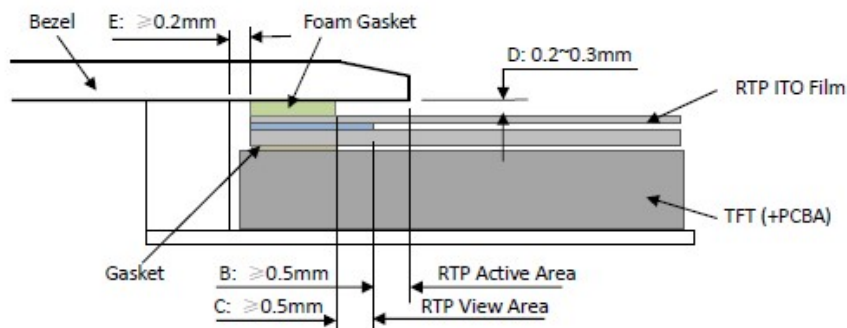

Figure 4
- It should bezel touching the RTP Active Area (A.A.) to prevent abnormal touch. It should left gap $D=0.2\sim 0.3\text{mm}$ in between. (Figure 4)
- Outer bezel design should take care about the area outside the A.A. Those areas contain circuit wires which is having different thickness. Touching those areas could de-form the ITO film. As a result bezel the ITO film be damaged and shorten its lifetime. It is suggested to protect those areas with gasket (between the bezel and RTP). The suggested figures are $B \geq 0.50\text{mm}$; $C \geq 0.50\text{mm}$. (Figure 4)
- The bezel side wall should keep space $E=0.2\sim 0.3\text{mm}$ from the RTP. (Figure 4)
- 为避免面框直接压在动作区 (A. A.) 上造成误动作，面框与电阻触摸屏 (RTP) 之间应留有一定的空隙 $D=0.2\sim 0.3\text{mm}$ 之间。(附图 4)
- 设计面框时，要注意用面框保护触摸屏四周的非保证操作区域，因为布线区域在此处形成一台阶，在此区域附近操作时 ITO Film 变形较大，容易导致 ITO 损坏而降低寿命。为保护 RTP 和避免误操作，在 RTP 与面框之间垫缓冲物 (Gasket)，我们建议设计面框应覆盖动作区的边缘，面框边缘到 V. A. 区的距离 $B \geq 0.50\text{mm}$ ；垫圈内边缘到 V. A. 区的距离 $C \geq 0.50\text{mm}$ 。(附图 4)
- 在设计面框与 RTP 组装时，应考虑到面框内侧与 RTP 外侧的间距 $E \geq 0.2\text{mm}$ 。(附图 4)